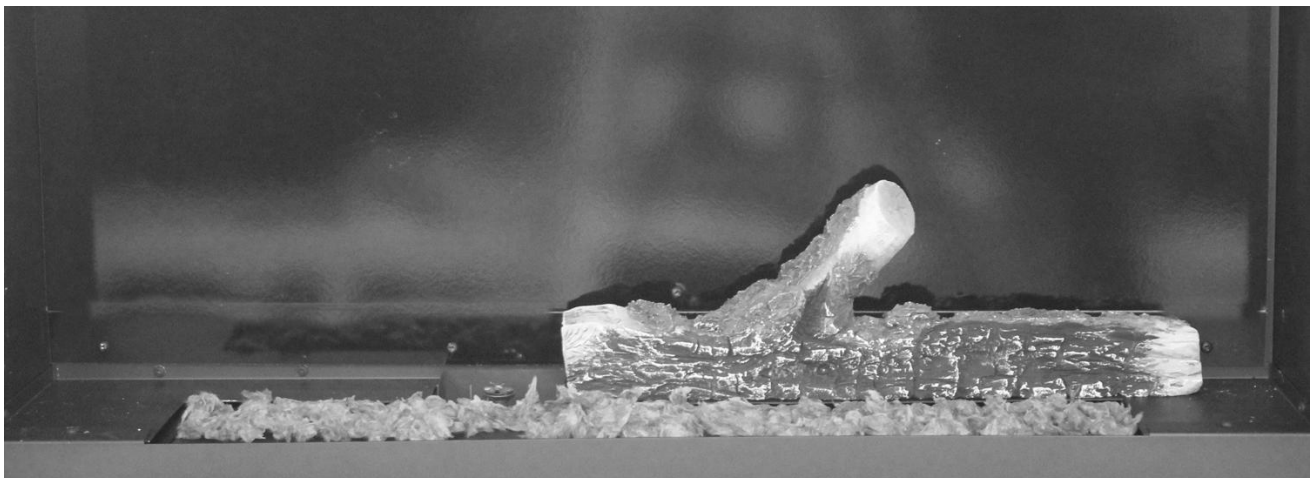

Figure 38 - Placing log #1
1. Place logs #1 and #2 on the rear log support of the firebox according to Figures 38 and 39.